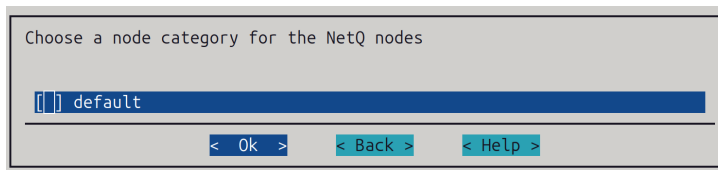

Figure 2.3: NetQ deployment: choosing a node category
3. The node category for the nodes where NetQ is to be installed is chosen (figure 2.3):